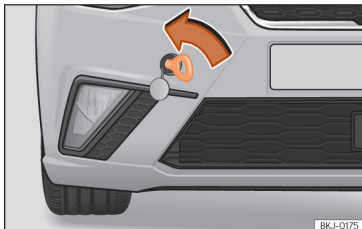

Fig. 46 Right side of the front bumper: towline anchorage in position.
- Screw the towing eye in the housing by turning it as far as it will go **anticlockwise** »» Fig. 46 »» ⚠. Use a suitable object that can completely and securely tighten the towing eye in its housing.